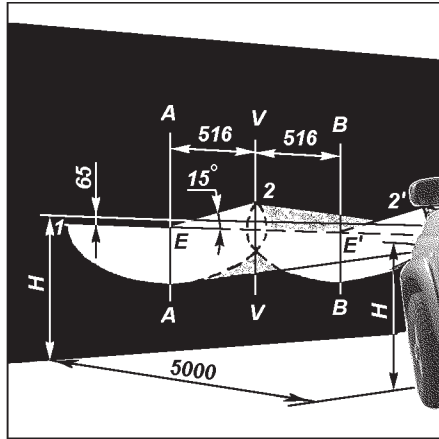

Fig. 9.40. Screen marking for headlamps adjustment:
1. Park the motor vehicle, which should have a full fuel tank, its curb weight, normal tires pressure and loaded driver's seat (750 N/75 kgf), on an even level ground 5 meters far from the screen with special markings (Fig. 9.40).